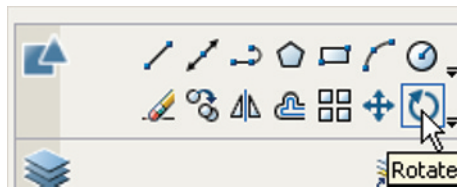

Fig. 5.26 The **Rotate** tool icon from the **2D Draw** control panel
2. Call **Rotate** – *left-click* its tool icon in the **2D Draw** control panel (Fig. 5.26), or *pick* its tool icon from the **Modify** toolbar, or *pick Rotate* from the **Modify** drop-down menu, or *enter ro* or *rotate* at the command line. The command line shows: